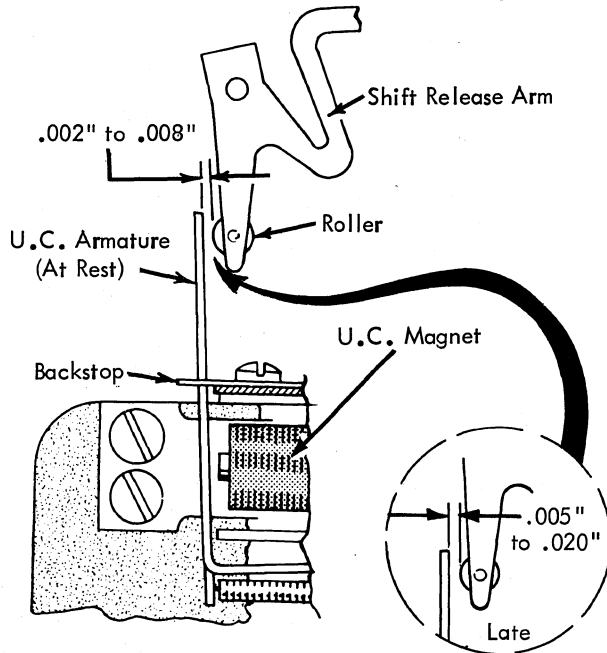

FIGURE 39. U.C. Armature Backstop
6. UC Armature Backstop (Fig. 39) - Position (armature at rest) so that the UC armature clears the release arm follower by $.002''$ to $.008''$.
- 6.1 UC Armature Backstop (Late) (Fig. 39) - Position armature backstop (armature at rest) so that the UC armature clears the release arm roller by $.005''$ to $.020''$.